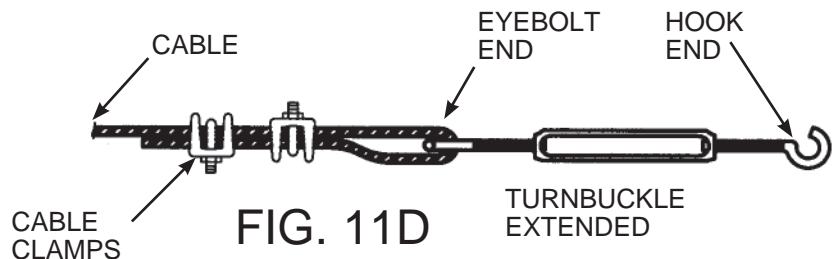

FIG. 11D
2) When installing the cable anchor bolt to the cable area, align the hole in the anchor bolt in the direction of the cable. See FIG. 11B. Run the cable through the in-line holes. see FIG. 11C. Run one end of the cable through the cable anchor at one end of cable area and loop. Attach (2) cable clamps and tightly secure cable, see FIG. 11B. Run other end of cable through eyebolt on turnbuckle, make loop and attach (1) cable clamp for now. With turnbuckle fully extended out, attach hook end of turnbuckle to the eyebolt at the end of the cable area. Loosen the (1) cable clamp and pull cable as taut as possible. Tighten (1) cable clamp and add second cable clamp now. Be sure all cable clamps are tight to secure the cable. Rotate mid-section of turnbuckle to tighten cable further, see FIG. 11D.